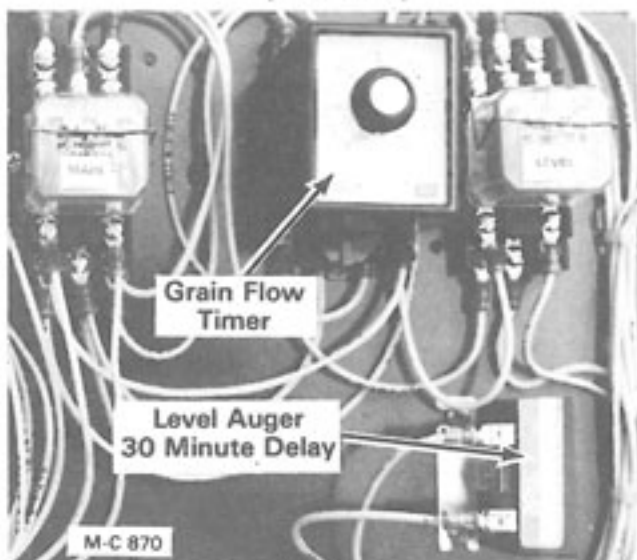

Figure 22
The Grain Flow Timer, Figure 22, will shut the dryer down if there is an insufficient grain supply to fill the hopper. When the level auger starts, the Grain Flow Timer will be activated. When the
There is a 30 minute delay, see Figure 22, in the level auger circuit also. It starts when the bin switch in the hopper closes. If the dryer does not discharge grain (caused by plugged metering rolls, broken unload auger belt or chain) the hopper will remain full of grain.
2. Flip the level auger switch to the AUTOMATIC position. Turn the timer control knob, Figure 22, to 30 minutes. The level auger will start after the .2 to 8 minute delay if the level auger light is on calling for grain.
4. Average the 6 refill times and reset the Grain Flow Timer, Figure 22, to run 5 minutes longer. For example, if it takes the level auger an average of 5 minutes to refill the dryer (including the .2 to 8 minute delay), set the Grain Flow Timer to run 10 minutes.